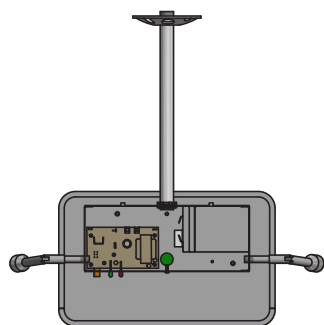

Figure 8
5. Re-attach power pack cover (fixed to second frame, if double face) and secure with bottom screw (figure 8).